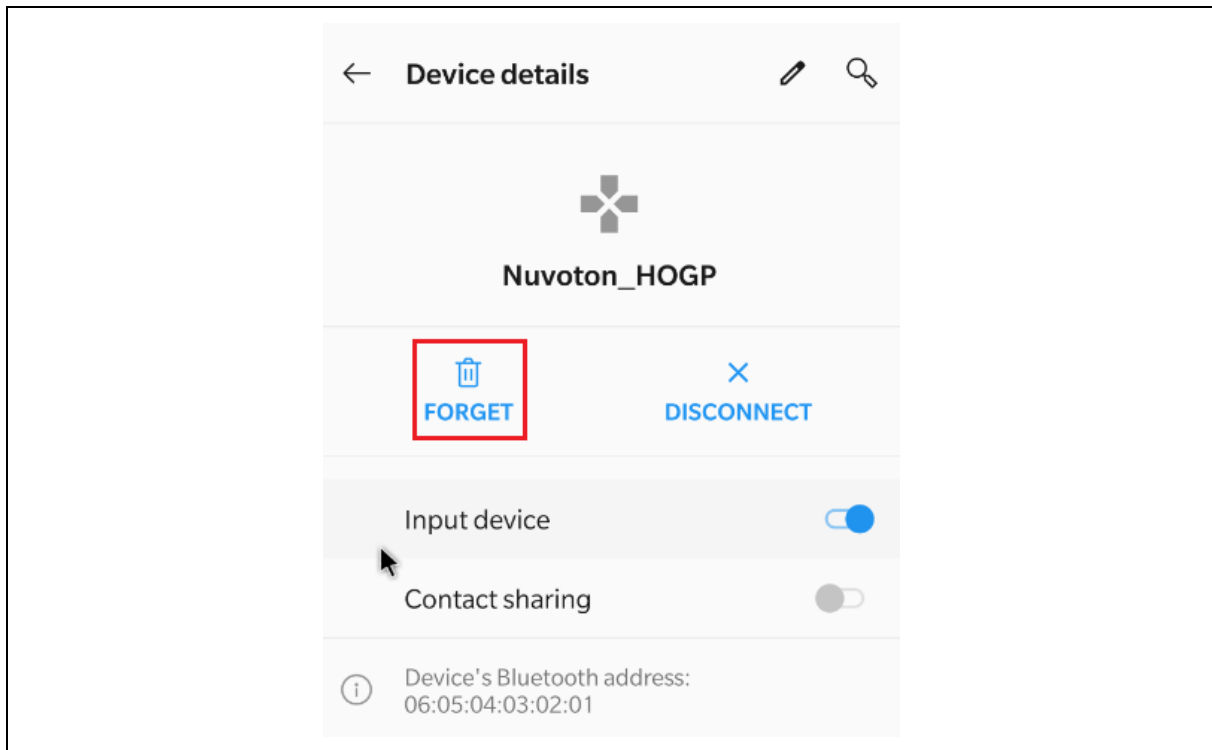

Figure 4-19 Forget the HOGP Device
7. The pairing security key is stored in the embedded Flash. If you re-flash the image, it will erase the security. Please note that you need to forget the old device first and then connect the new device to pair again. To forget the device, you can do it after clicking Nuvoton\_HOGP item, as shown in Figure 4-19.